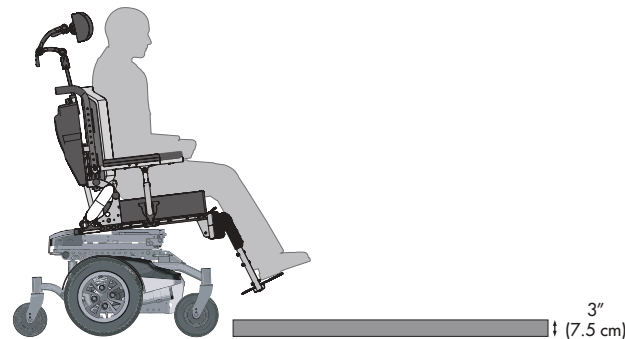

Figure 2. Never try to climb an obstacle greater than 3" (75 mm) with 8" (205 mm) casters.
Obstacles you may have to overcome daily include door thresholds, lifts, ramps and hazards such as potholes and broken pavement. (See Fig.2 below). These can damage your power wheelchair and may cause a fall, tip-over or loss of control.
3. NEVER should you try to climb a curb, single step, or other obstacle greater than 3" (75 mm) high. (See Fig.2 in Section P. OBSTACLES).